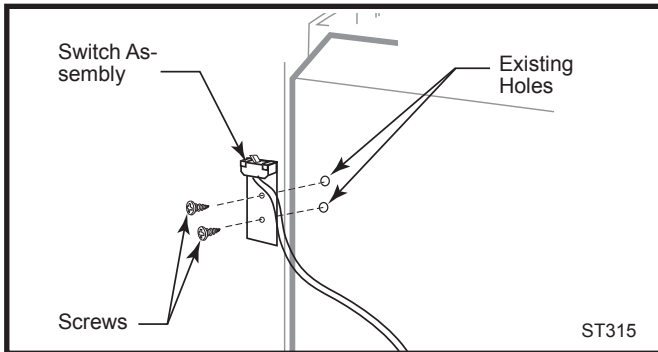

Fig. 7 Attach switch assembly to rear shroud.
1. Attach switch assembly to left rear side of stove shroud using two screws and existing holes in shroud. (Fig. 7)